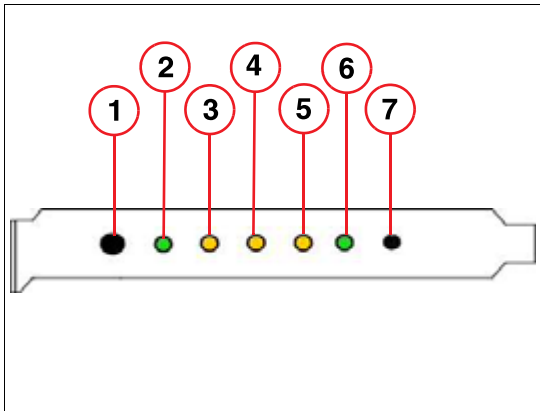

Fig. 28: Dash board
- The **ON/OFF** button (1/Fig. 28 / p. 56) is used to switch each computer system on and off, independent of the other computers.
- The green **Power-On** LED (2/Fig. 28 / p. 56) indicates that the computer is on or off.
- Each computer system is monitored for power. The LED **Power Fail** (3/Fig. 28 / p. 56) on indicates a power failure. Additionally, an error message is sent to the event log.
- The yellow LED **Overheat** (4/Fig. 28 / p. 56) indicates two faults:
- The yellow LED **On board LAN 1** (5/Fig. 28 / p. 56) of the IRS REC computers is not relevant for service. On the IRS TCR, it indicates traffic between ICS - GBit switch - IRS TCR.
- The green **HDD Busy** LED (6/Fig. 28 / p. 56) indicates access to the hard disk drive of the operating system.
- The **Reset Button** (7/Fig. 28 / p. 56) is used to prompt the computer to perform a hardware reset. A boot-up is performed. Use a pen with a thin tip to press the button.